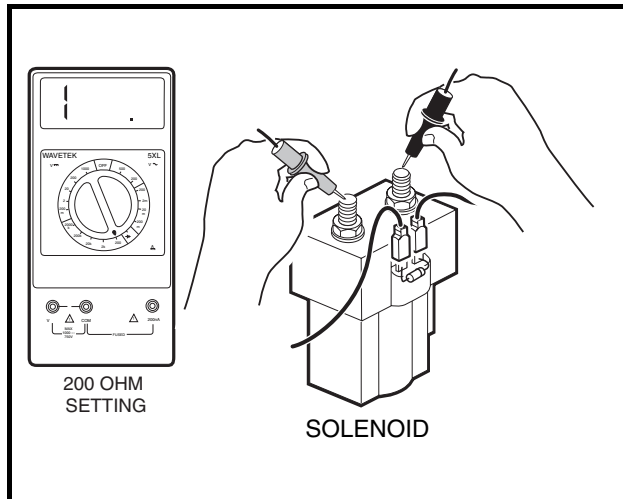

Figure 11-23 Solenoid Contact Test
2. Remove all wires from the large posts of the solenoid. Remove resistor assembly. Place the red (+) probe of the multimeter on one of the large posts of the solenoid and the black (–) probe of the meter on the other large post on the solenoid. Multimeter should indicate no continuity. If multimeter indicates continuity, replace solenoid (**Figure 11-23, Page 11-21**).